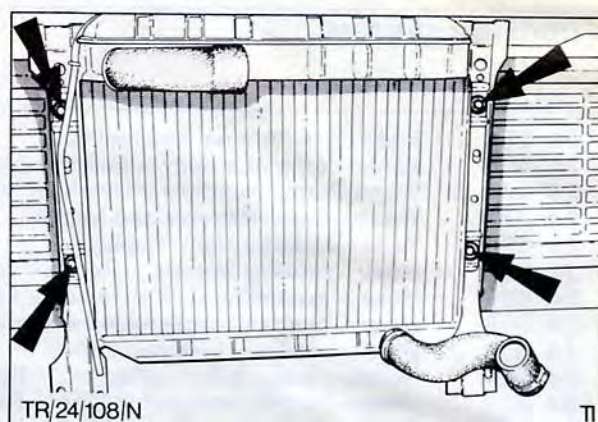

Fig. 4. Arrows show radiator mounting bolts. Viewed from engine compartment for clarity
5. Remove four bolts and guide out radiator assembly, fig. 4.